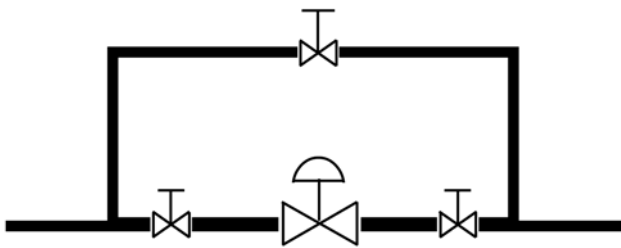

Figure 1
2. For inspection of valve without interrupting the process, provide a hand operated stop valve on each side of the MIL 78000 series valve with a hand operated throttling valve mounted in a bypass line. (See Fig. 1)
Note: MIL Eco-lock type packing (Figure 1) is a high performance system to keep fugitive emissions within allowable limits. The packing is provided with the lower packing and upper packing as a set.